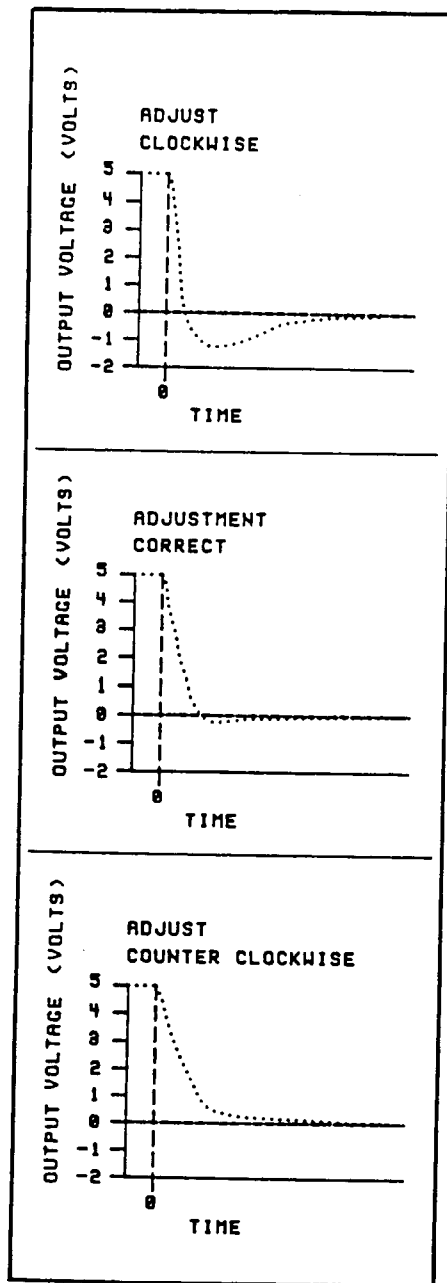

Figure 3-4. Fast Response Adjustment
3. The behavior of the output signal during the transition between 100% and 0% flow indicates the adjustment required of the anticipated potentiometer. Refer to Figure 3-4.